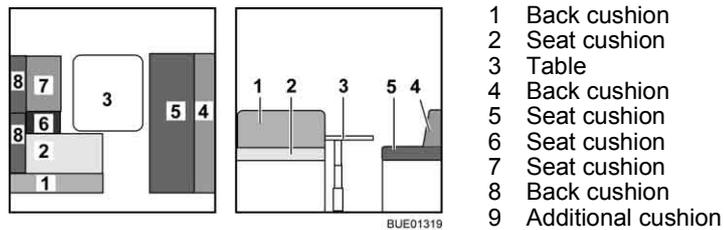

Fig. 139 Prior to conversion
- Convert the table (Fig. 139,3) to a bed foundation (see section 6.10).
- Remove the back cushions (Fig. 139,1 and 8) and lay them aside.